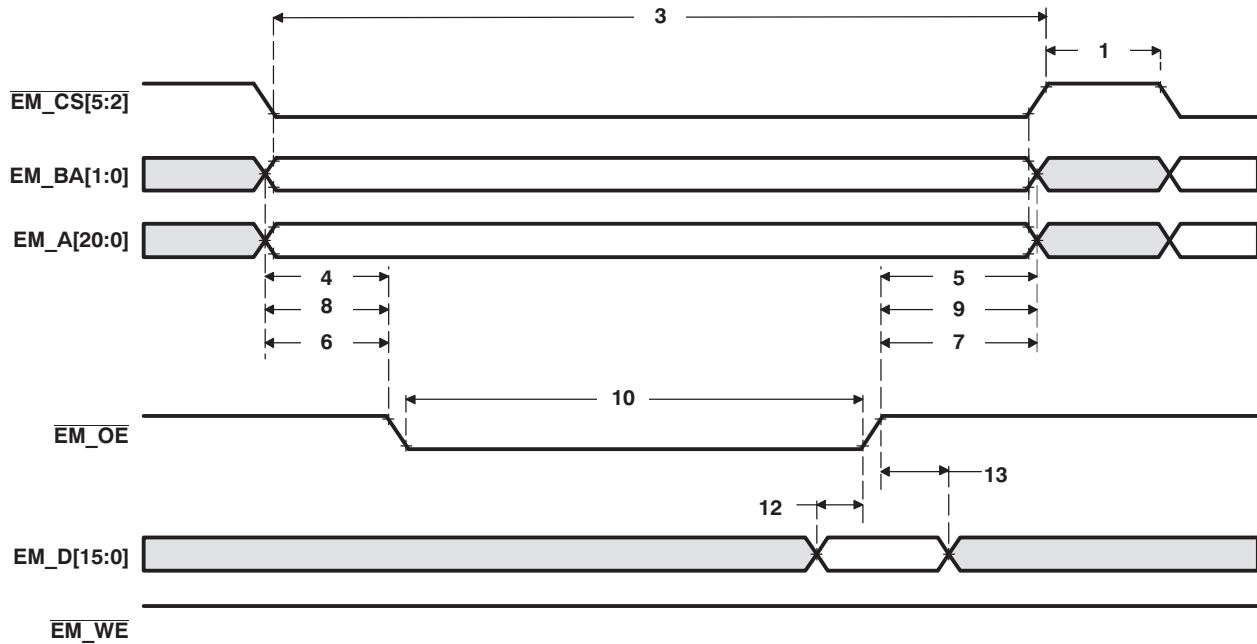
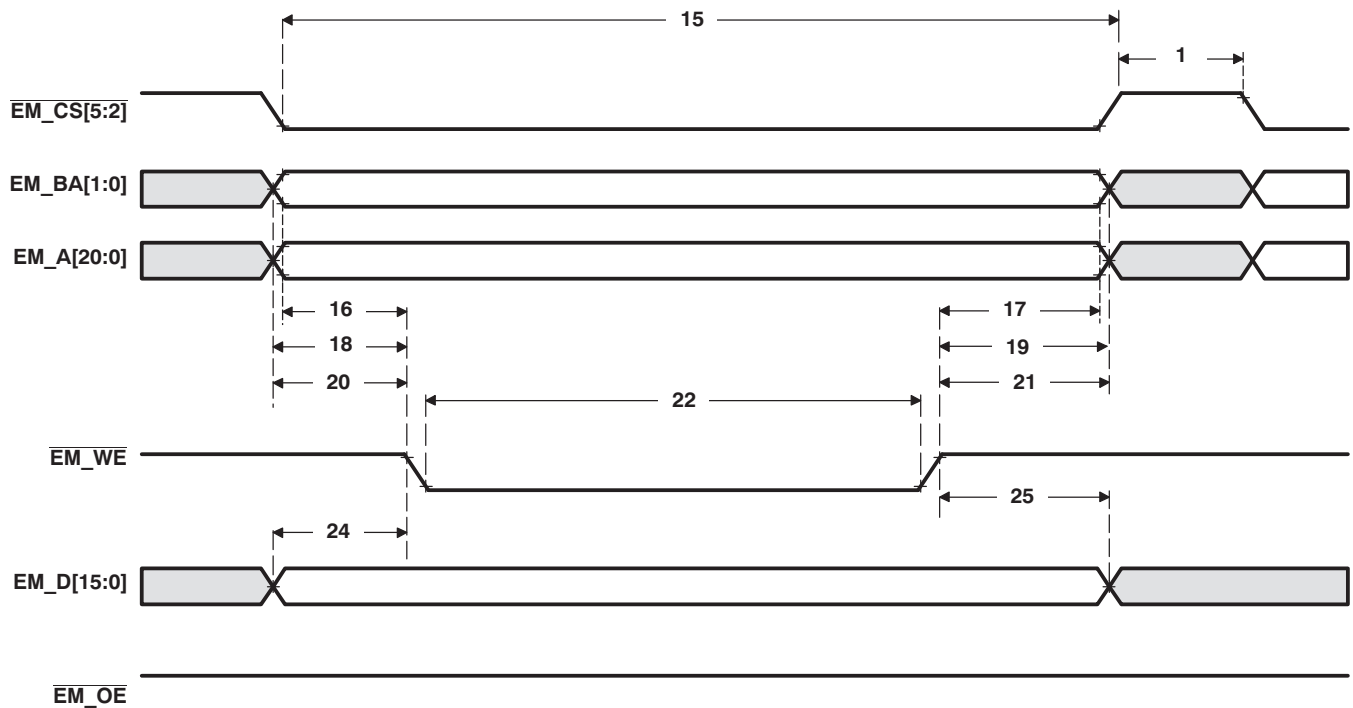
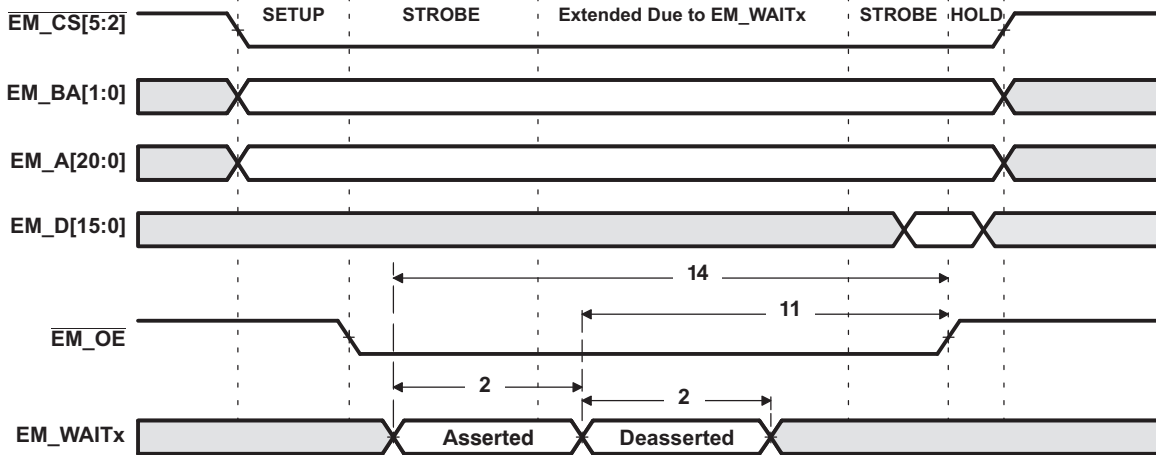
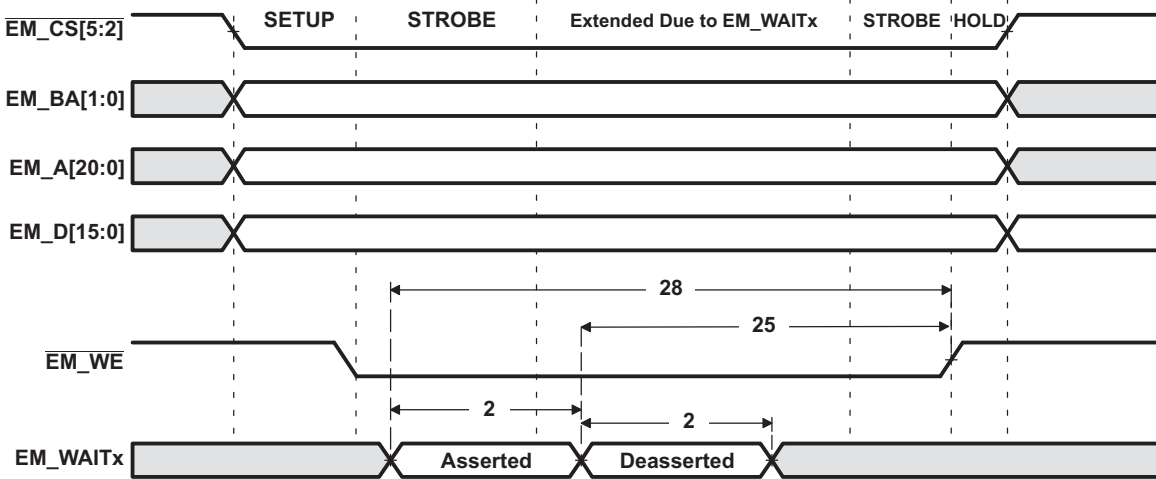

Figure 6-14. Asynchronous Memory Read Timing for EMIF
Figure 6-15. Asynchronous Memory Write Timing for EMIF
Figure 6-16. EM_WAITx Read Timing Requirements
Figure 6-17. EM_WAITx Write Timing Requirements
Table 6-13. Switching Characteristics Over Recommended Operating Conditions for EMIF Asynchronous Memory ⁽¹⁾ ⁽²⁾ (see Figure 6-15 and Figure 6-17) ⁽³⁾ (continued)
Table 6-14. Timing Requirements for EMIF Asynchronous Memory⁽¹⁾ (see Figure 6-14, Figure 6-16, and Figure 6-17)
- (1) E = SYSCLK period in ns, if EMIF is set for "full rate" **or** E = SYSCLK/2 period in ns, if EMIF is set for "half rate" as defined by bit 14 of the EMIF Status register (0x1001h). For example, when EMIF is set to full rate and SYSCLK is selected and set to 100 MHz, E = 10 ns.
- (2) Setup before end of STROBE phase (if no extended wait states are inserted) by which EM_WAITx must be asserted to add extended wait states. Figure 6-16 and Figure 6-17 describe EMIF transactions that include extended wait states inserted during the STROBE phase. However, cycles inserted as part of this extended wait period should not be counted; the 4E requirement is to the start of where the HOLD phase would begin if there were no extended wait cycles.
Table 6-15. Switching Characteristics Over Recommended Operating Conditions for EMIF Asynchronous Memory^{(1) (2) (3)} (see Figure 6-14, Figure 6-16, and Figure 6-17)
Table 6-15. Switching Characteristics Over Recommended Operating Conditions for EMIF Asynchronous Memory ⁽¹⁾ ⁽²⁾ ⁽³⁾ (see Figure 6-14 , Figure 6-16 , and Figure 6-17) (continued)